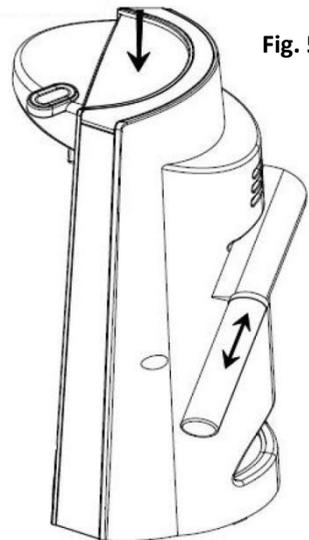

Fig. 5
3. Insert the heel of the clean knife to be sharpened into the groove (fig. 5) at the rear of the opener and with a light pressure, pull the handle of the knife so that the length of the blade passes through the sharpener. Repeat a further four to five times on each side of the knife.